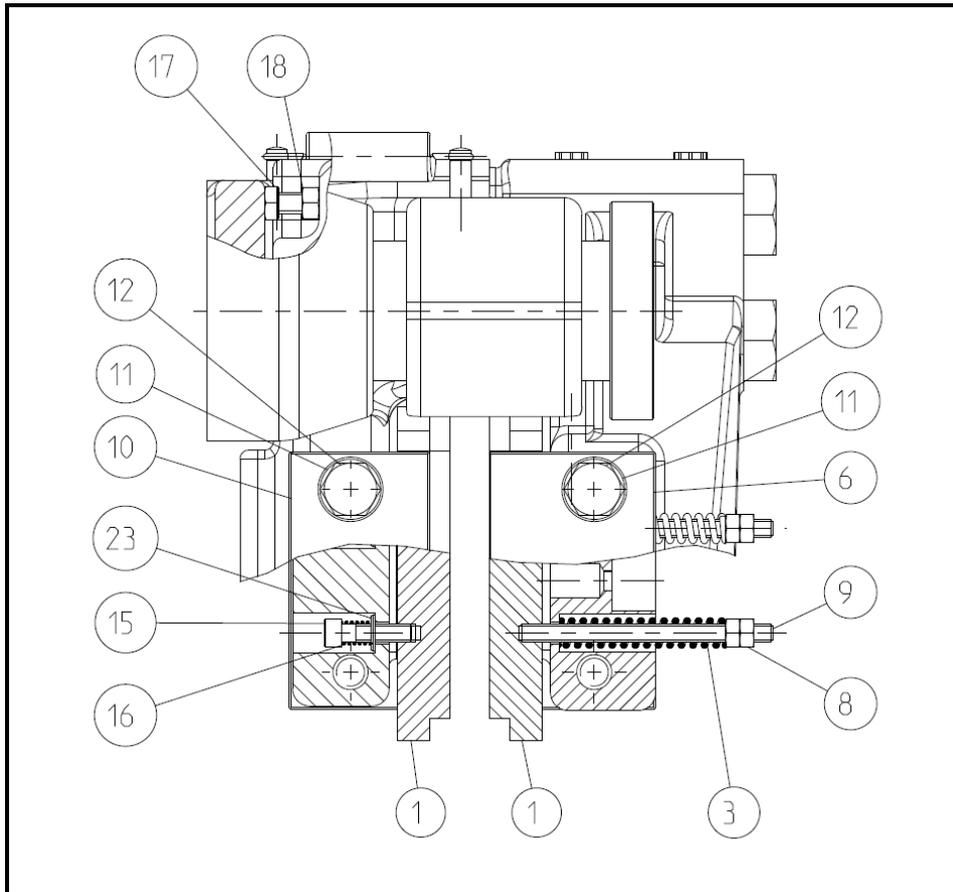

Fig. 11.1
Make sure that there is no oil pressure on the brake caliper before exchanging the friction pads and disassemble one of the two holding plates in each case (item 6 and 10, Fig. 11.1) on one side.